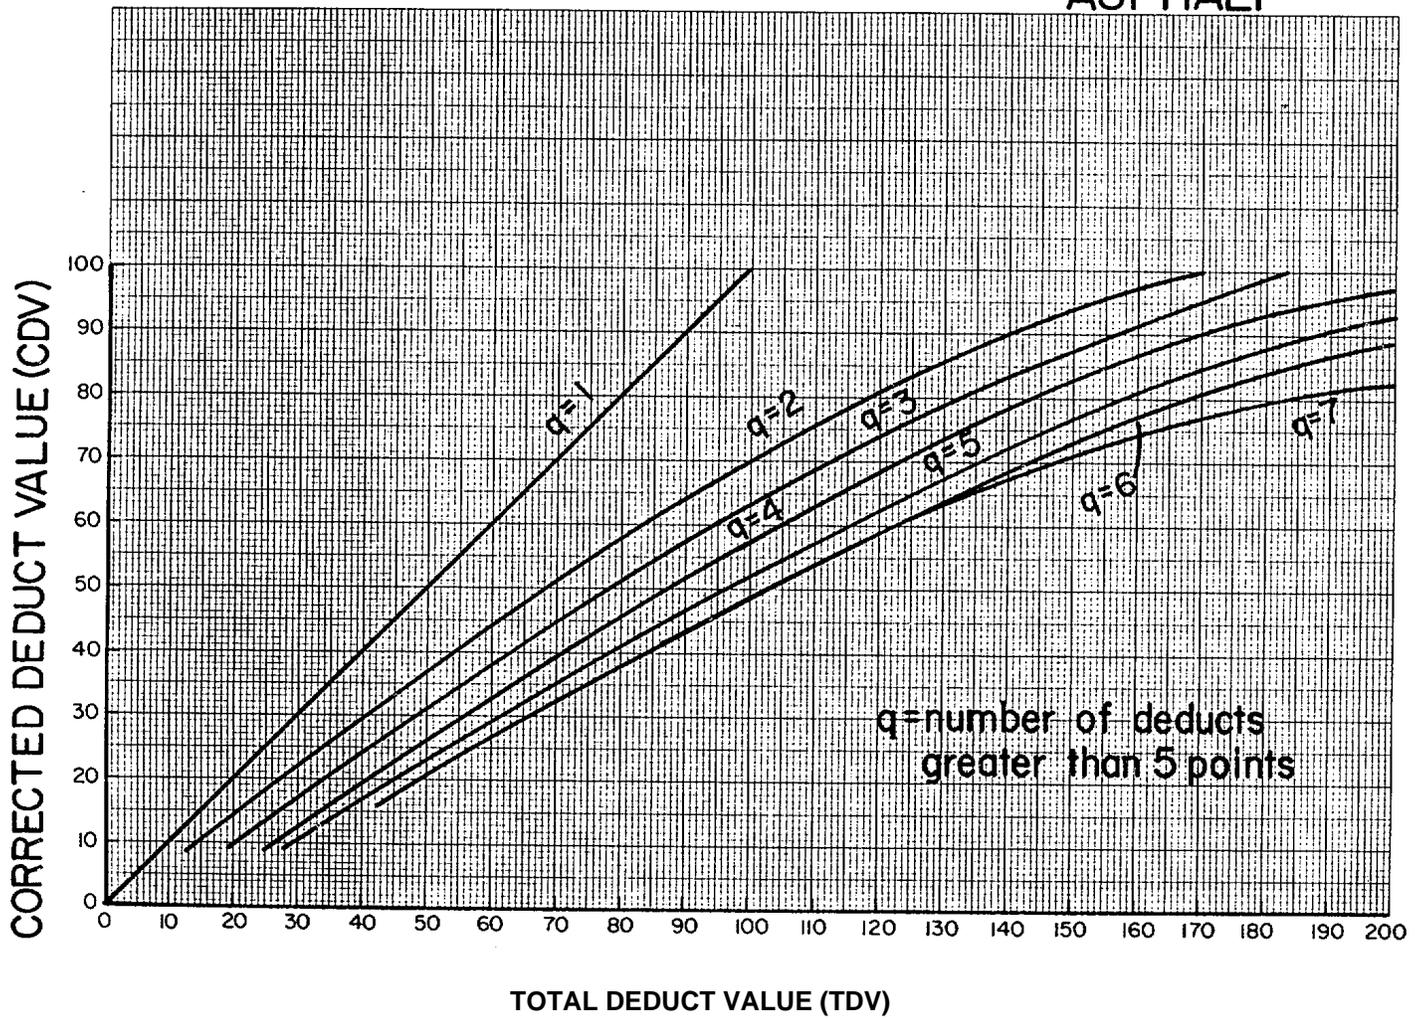

Figure C-20. Corrected deduct value curves for asphalt-surfaced pavements.
*d. Step 4.* The corrected deduct value (CDV) is computed. In the example given in figure 3-3, the total deduct value (the sum of all deduct values) was found to be 45. The value of q (the number of individual deducts whose value is greater than 5) was found to be 2. Using figure C-20 find 45 on the TDV line. Proceed vertically to the line q equals 2, then to the left to read a CDV of 33.